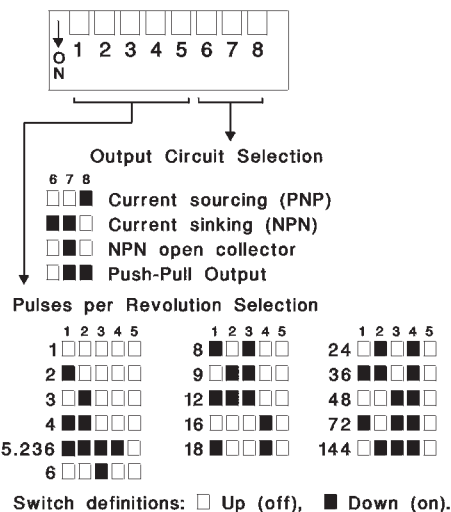

Figure 1 - Configuration Switches
**Output Circuit:** Selectable by setting switches 6 to 8 (see figures 1 and 2)
**Pulses per Revolution:** Selectable by setting switches 1 to 5 (see figure 1)